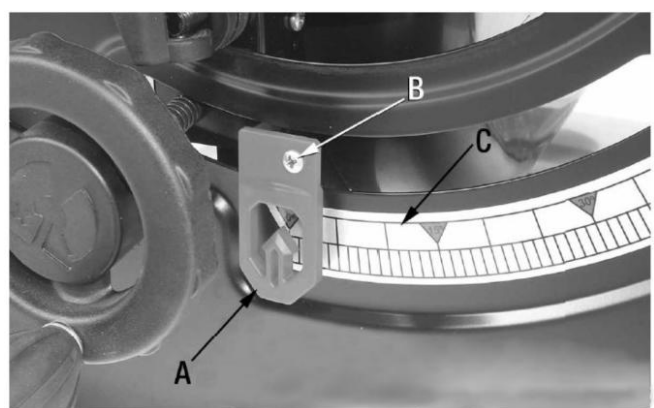

FIGURE 17
If the blade is at a 90° angle and the bevel indicator (A) Fig.17 does not indicate 0° on the scale, an adjustment can be made;
3. Loosen the screw (B) Fig.17 which secures the bevel indicator (A). Re-adjust the position of the bevel tilt angle indicator so it aligns with the 0° on the bevel scale.
4. Retighten the screw (B) Fig.17.